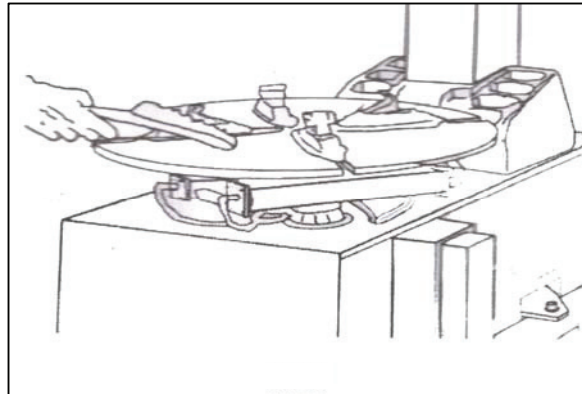

FIG 25
2. Use diesel oil to clean the turntable claw and its guide. Use lithium base oil to lubricate (Fig 25).